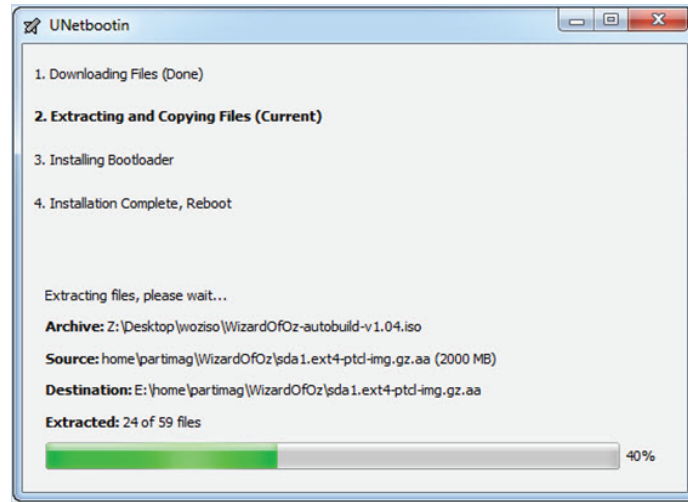

Figure E4. UNETBOOTIN copy/burn progress window.
6) Throughout the ISO image copy/burn process, the window in figure E4 will be displayed and updated.